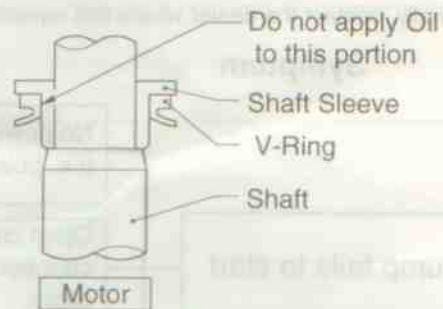

Fig. 1
(1) First remove sand or other debris from the Impeller, Pump Casing, and Suction Cover before reassembly.
(2) Install the V-Ring on the outside of the Shaft Sleeve, as shown in Fig. 1. During the installation, make sure not to apply Oil to the area in which the V-Ring contacts the Shaft Sleeve.